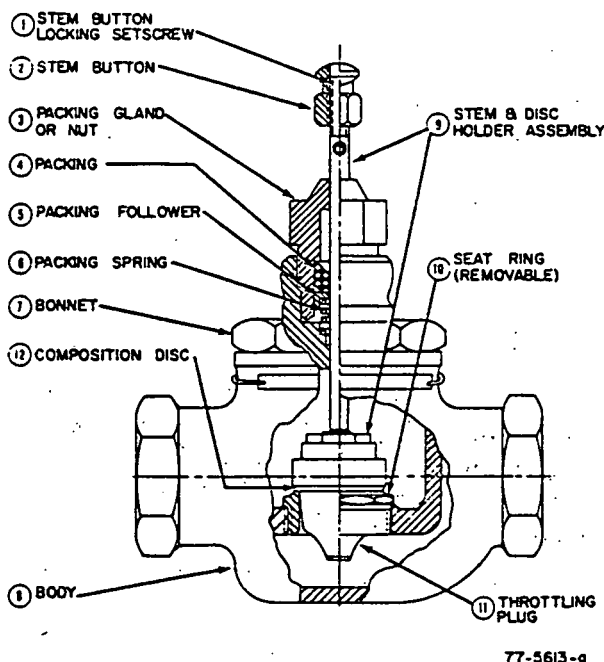

Fig. 1—Cutaway of Typical V5011A Screwed Type Body.
- a. Screwed Body Valves (V5011A & C) – The bonnet may be unscrewed and the stem and plug assembly can then be lifted out (Fig. 1).